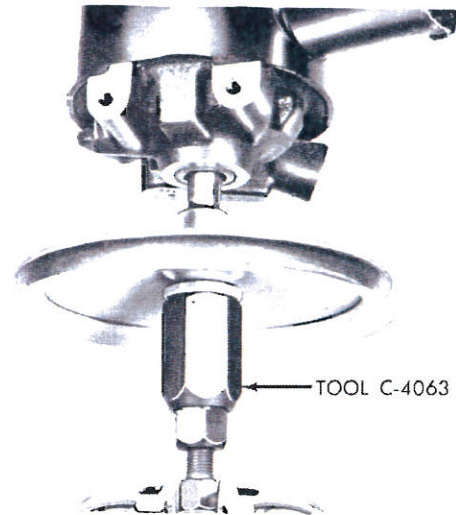

Fig. 33—Pulley Installation—6 Cylinder Engines
(16) Place reservoir on pump body and visually align mounting bolt hole. Tap reservoir down on pump with plastic hammer.
(17) Remove pump from vise and install mounting brackets with three mounting bolts, tighten to 18 foot-pounds.
(18) Install drive pulley. See "Pulley Installation" (Figs. 33 and 34).
shaft, securely thread installer Tool C-4063, **without** adapter, into 3/8 inch threaded hole in end of shaft. (Fig. 33).